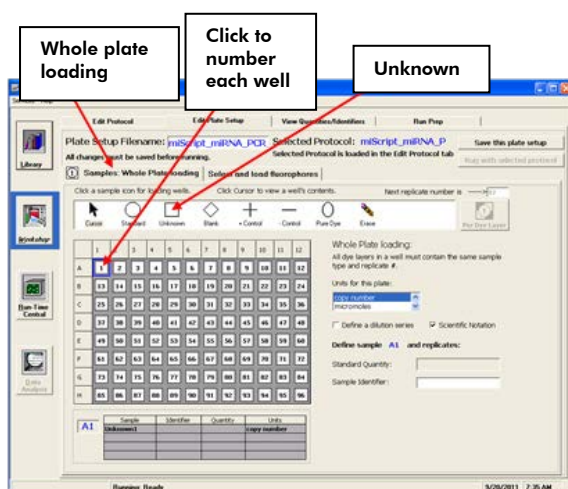

Figure 2. Plate setup (1).
3. To set up a template file for “Plate Setup,” click on the “Library” module on the left panel and then select the “View Plate Setup” tab; click “Create a New Plate Setup” on the right. This will open the “Edit Plate Setup” tab in the “Workshop” module. Choose the “Whole Plate” mode. In the “Samples: Whole Plate loading” tab (see Figure 2), click to select the icon for “Unknown.” In the diagram of the 96-well plate, click on each well one at a time to designate the sample type as “Unknown” and number the well.